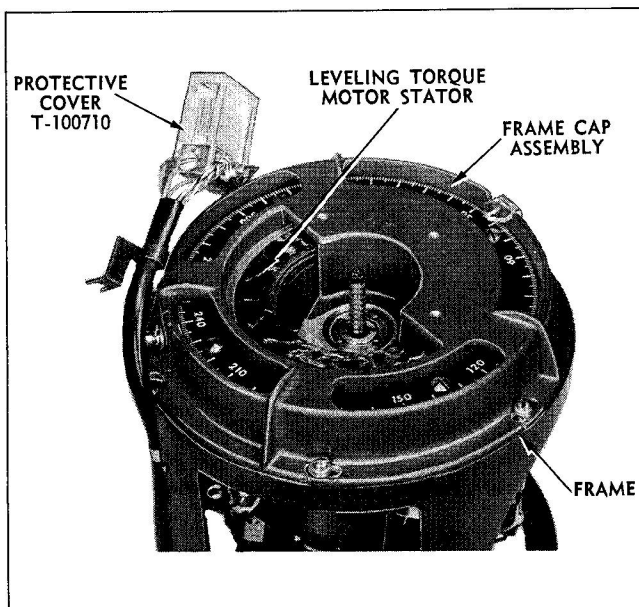

Figure 2-6 Removing Frame Cap Assembly
(6) Remove the plastic brush-spreading tool from the brush block assembly, and place Protective Cover T-100710 (figure 2-6) over the brushes to protect them from being bent or otherwise damaged. Place a piece of plastic sleeving approximately 1-1/4 inches long with an ID of 0.180 to 0.190 inch on the slip rings to insure against scratching during the remainder of the overhaul.
(7) Remove the four fillister-head screws, plain washers, and lockwashers from the frame cap, and work the frame cap assembly free of the frame. Be careful not to damage the slip ring assembly or the leveling torque motor stator winding. (See figure 2-6)
(8) Using Bearing Puller T-100714 (for outside diameter of bearing) remove the top vertical ring bearing. Be careful not to damage